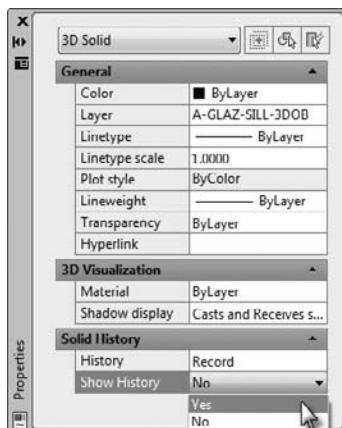

FIGURE 16.37 In the Properties palette, set the Show History property to Yes.
2. Select the window frame, right-click, and choose Properties; and then, in the Solid History rollout, choose Yes for the Show History option. See Figure 16.37.